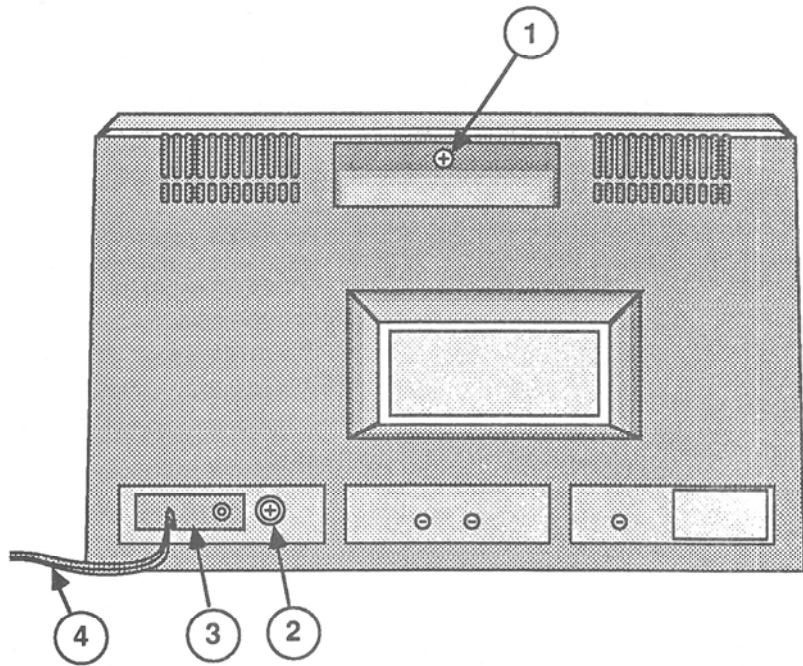

FIGURE 5
1. Feed the line cord (Figure 5, #4) through the opening on the rear cover and lower the rear cover onto the monitor chassis. Position the rear cover so that the two inside slots fit over the sides of the deflection board as you lower the rear cover onto the monitor chassis.
2. Pull the line cord molding (Figure 5, #3) through the opening on the rear cover and slide the molding to the right 1/8th inch.
3. Replace the line cord molding screw (Figure 5, #2).
4. Replace the single screw (Figure 5, #1) located inside the top handle on the rear cover.